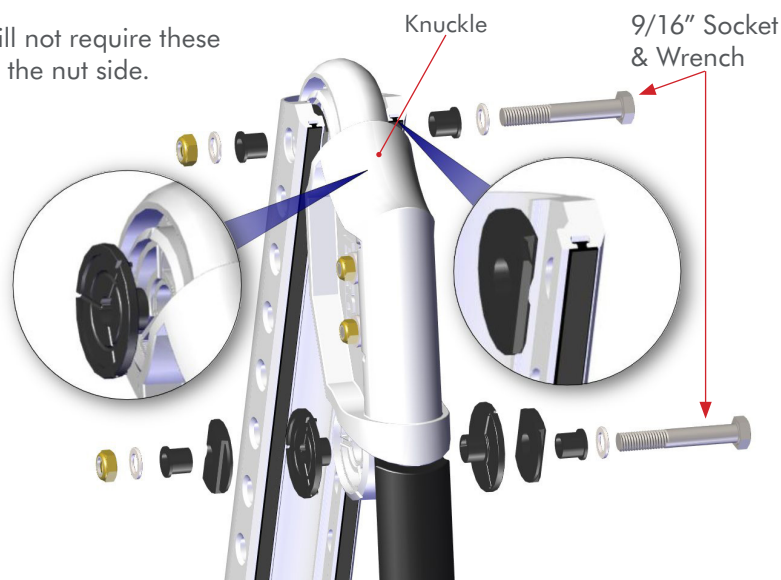

Figure 2
STEP 3 Remove the hardware that attaches the **Knuckle** to the **U-Channels** using a **9/16" Socket & Wrench**. **FIG 2**
STEP 3 Use the **Spreader Block** to insert the **Knuckle** into the top **U-Channel**. Install all upper hardware. **FIG 2**